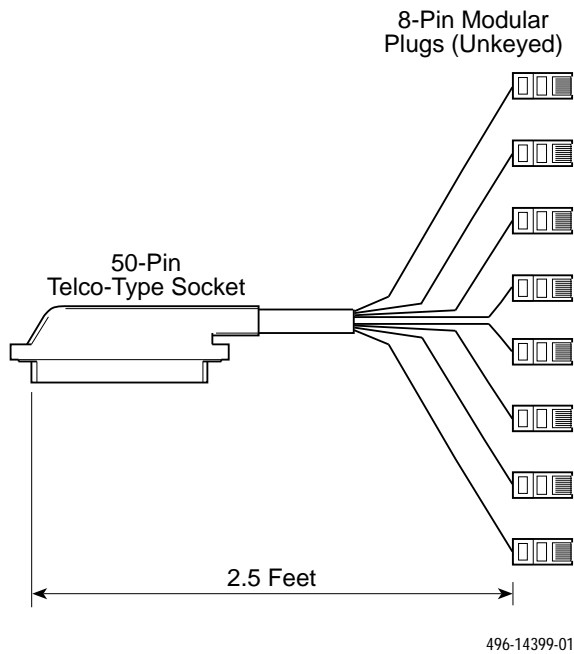

Figure B-2. T1 Network Interface Connector
- 2 1/2-foot octopus cable with a 50-pin Telco-type socket (RJ48H) on one end (see Figure B-2)